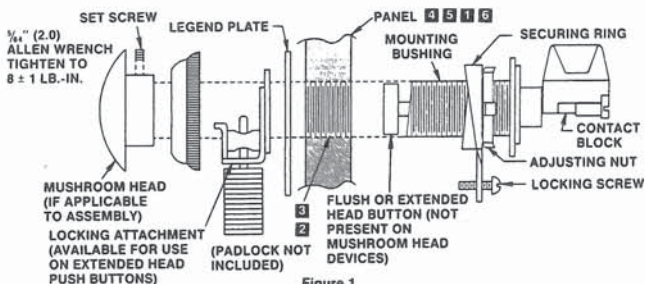

Figure 1
- Assemble mounting ring as shown in Figure 1 and tighten. Allen-Bradley Catalog No. 800T-N3 wrench is available for this operation.